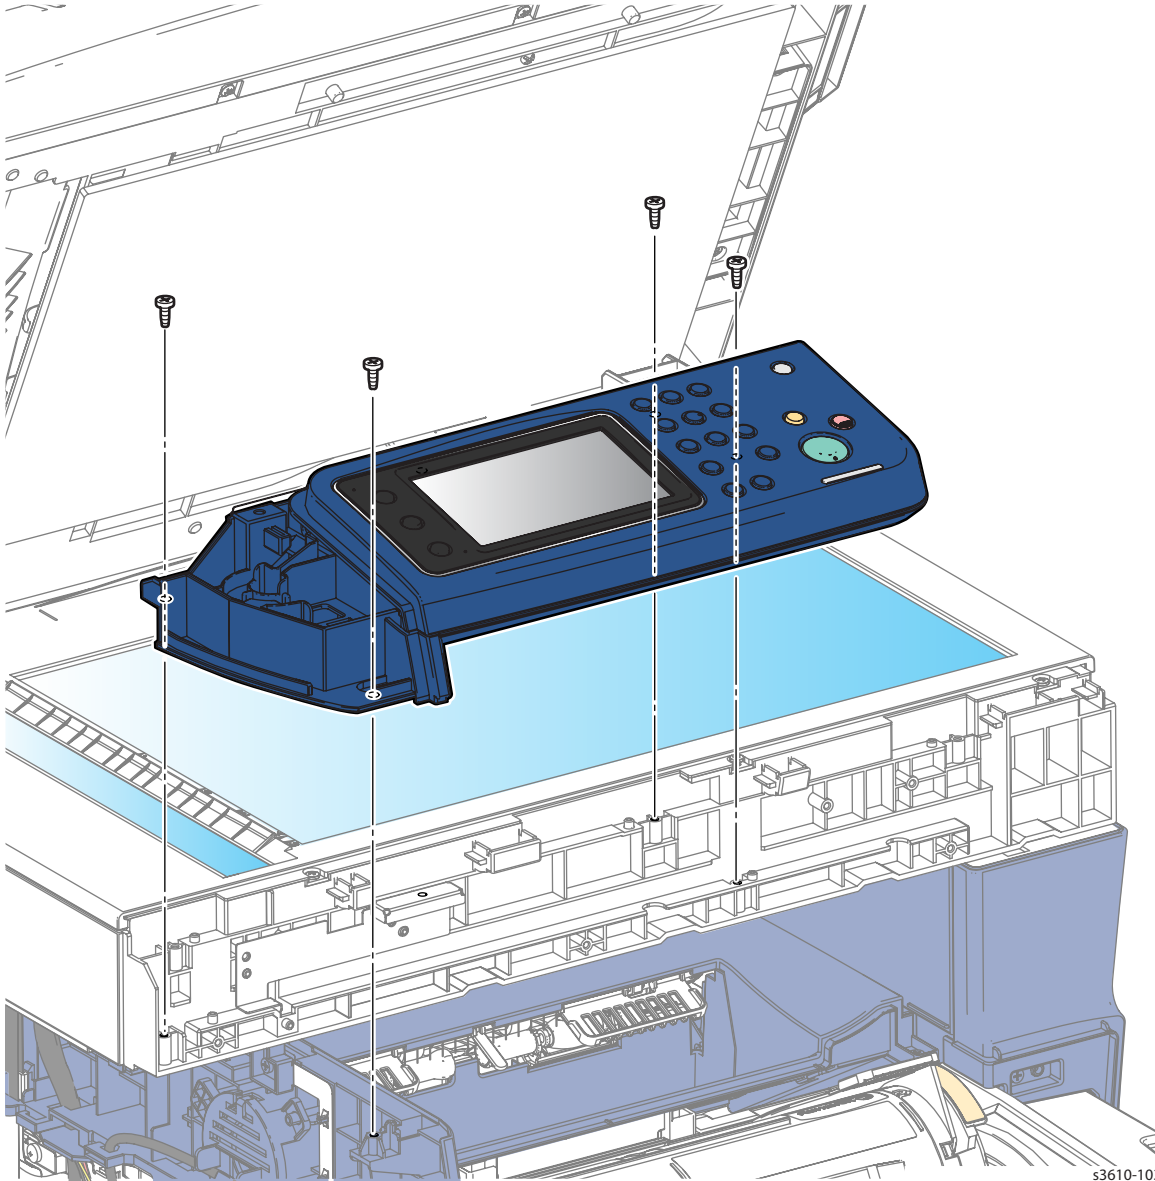

Figure 2
4. Remove the Control Panel (Control Panel). (Figure 2)